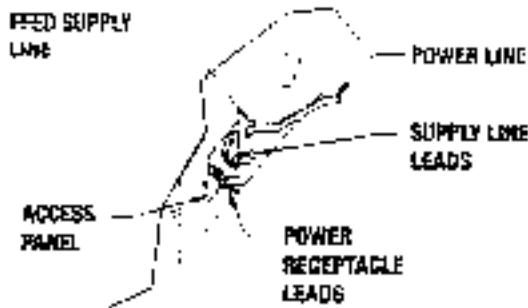

FIGURE 3-4 SUPPLY LINE
3. Feed the supply line through the port to the right of the access panel. Refer to Figure 3-4.